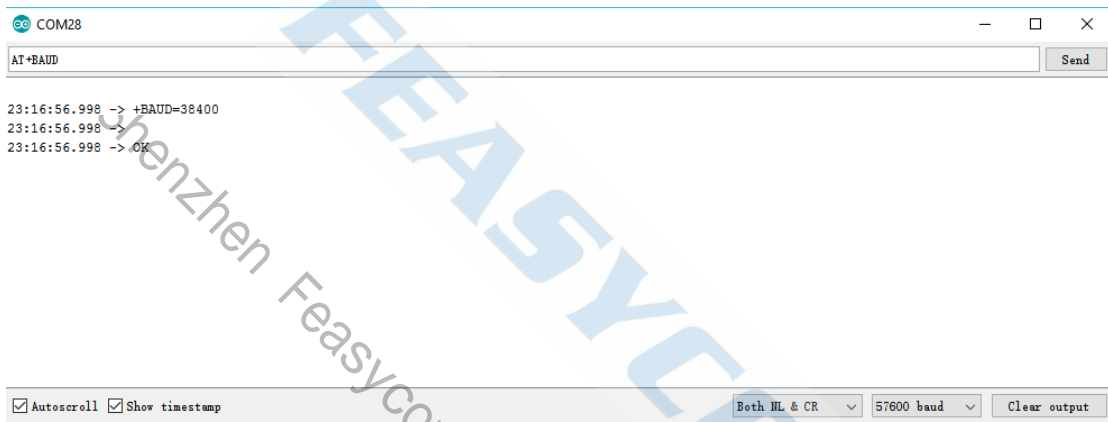

Figure 5. Send AT+BAUD
4. Send "AT+BAUD=38400" command to modify the baudrate of the software serial port. Send "AT+BAUD" command to check the baudrate whether it was modified successfully (Figure 5).